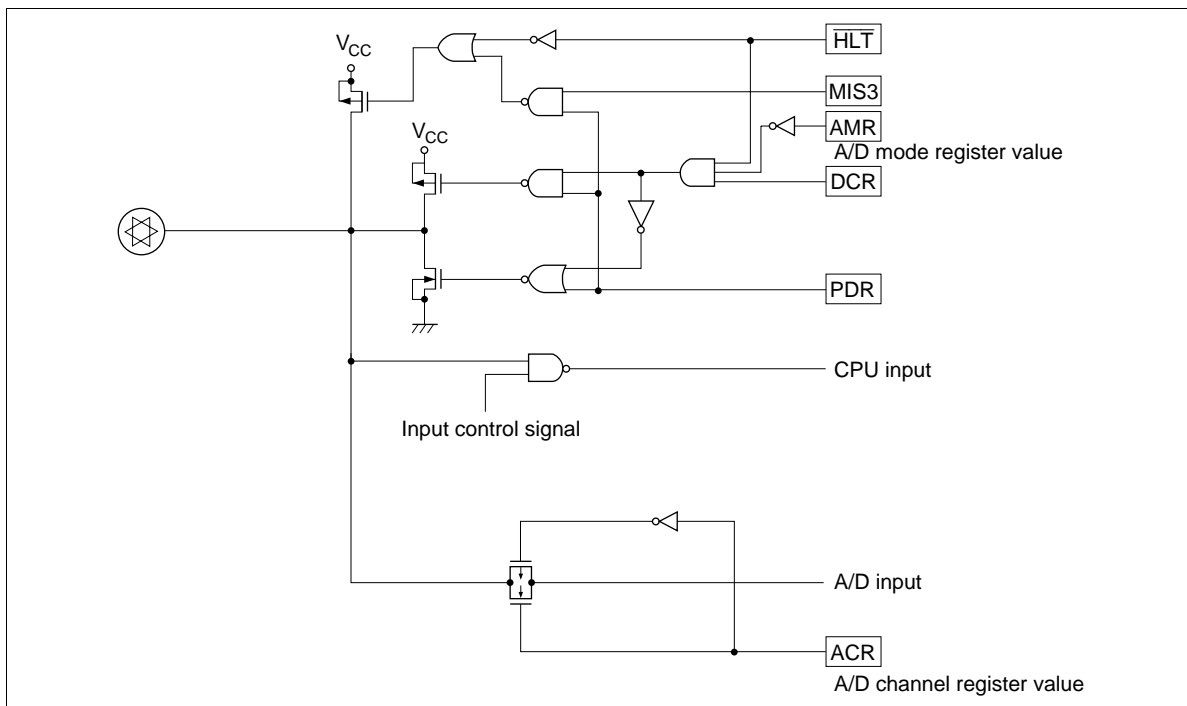

Figure 78 R Port/Analog Multiplexed Pin Circuit
- The port data register (PDR) is initialized to 1 by an MCU reset. At this time, if pull-up MOS is selected as active by bit 3 of the miscellaneous register (MIS3), the port will be pulled up to V_{CC} . When using a shared R port/analog input pin as an input pin, clear PDR to 0. Otherwise, if pull-up MOS is selected by MIS3 and PDR is set to 1, a pin selected by A/D mode register 1 or 2 (AMR1 or AMR2) as an analog pin will remain pulled up (figure 78).